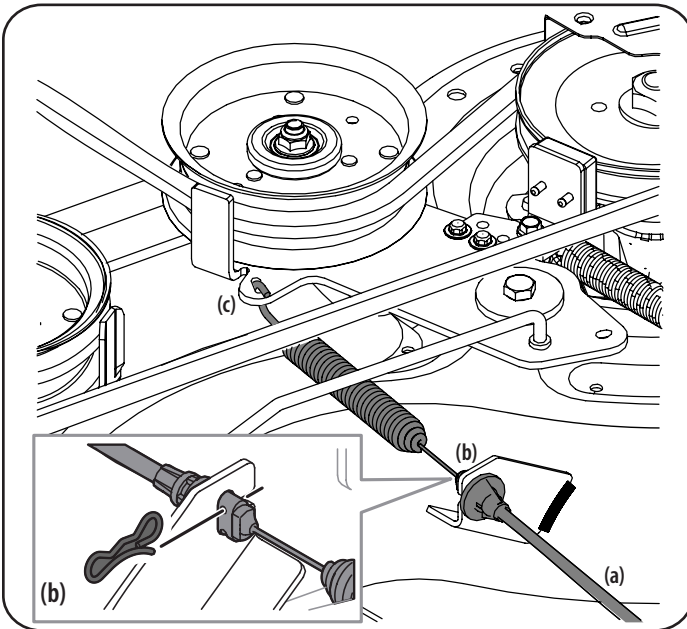

Figure 28
9. Carefully remove the PTO cable (a) from the rear of the cutting deck by removing the bow-tie clip (b) which secures it. Remove the spring (c) from the deck idler bracket. See Figure 28.